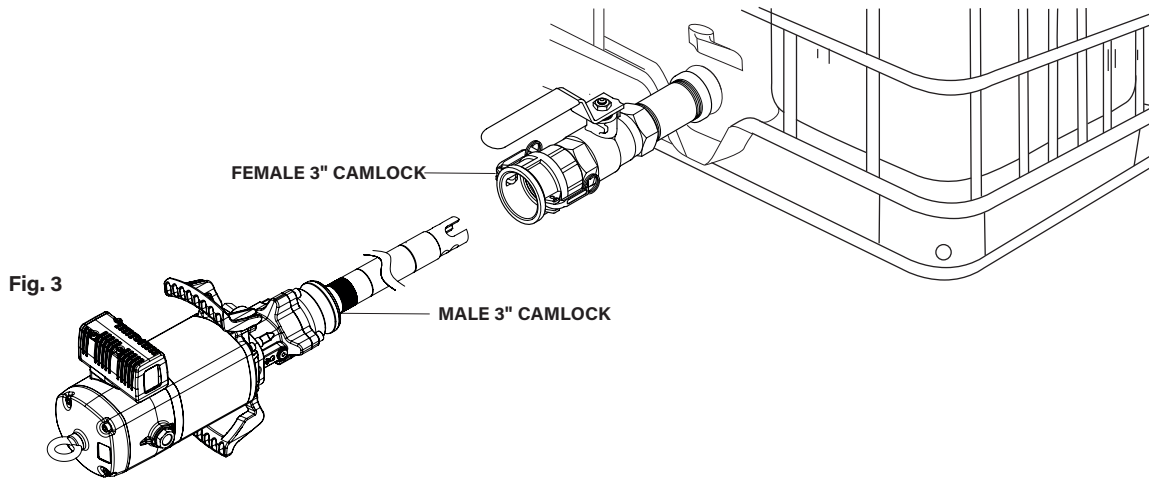

Fig. 3
- b. Horizontal mounting to a bulk container (1450-007 pumps). These pumps have the male part of a 3" camlock which would connect to the female part installed in the container (fig. 3).
- b. Montaje horizontal directamente a depósito (bombas 531730, 531731). Estas bombas incorporan la parte macho de un camlock de 3", que se acoplaría a la parte hembra colocada en el depósito (fig. 3).